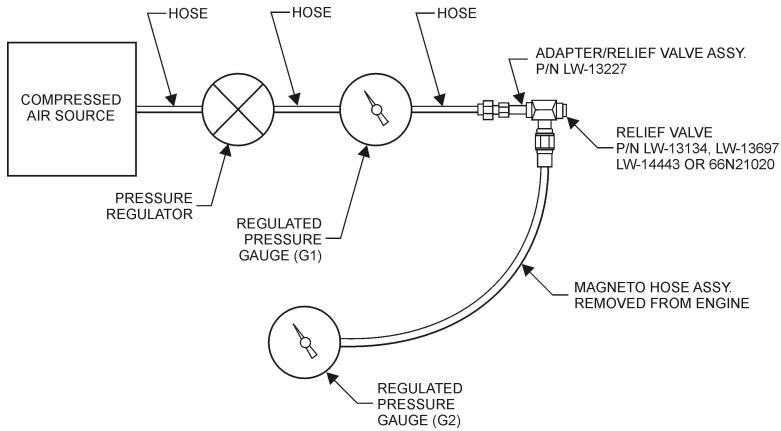
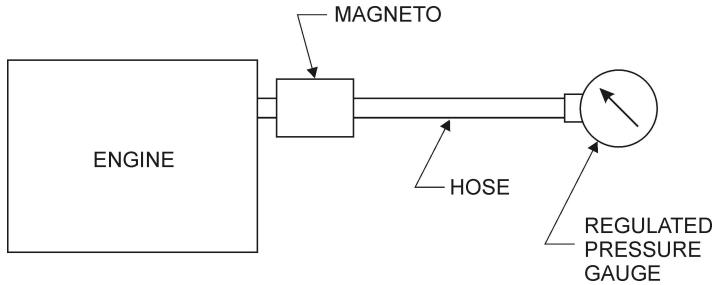

Figure 2. Alternate Connections for Relief Valve and System Check
Figure 3. Alternate Relief Valve and System Check for TIO-540 Series Engines
A relief valve and system check can be performed with either the model 11-10090 Air Flow Tester with the setup shown in Figure 2, or with the alternate setup as shown in Figure 3. See Table 1 for applicability. The parts needed for the setup in Figure 2 are one pressurized regulator and two regulated pressure gauges which will read from one (1) to ten (10) psi. The two gauges must be able to be read in $\frac{1}{4}$ psi increments. The part needed for the setup in Figure 3 is one regulated pressure gauge which will read from one (1) to ten (10) psi. The gauge must be able to be read in $\frac{1}{4}$ psi increments.
Figure 2 Setup: Connect the compressed air source, the pressurized regulator, the two regulated pressure gauges, the magneto hose, the adapter P/N LW-13227 and relief valve as shown in Figure 2.